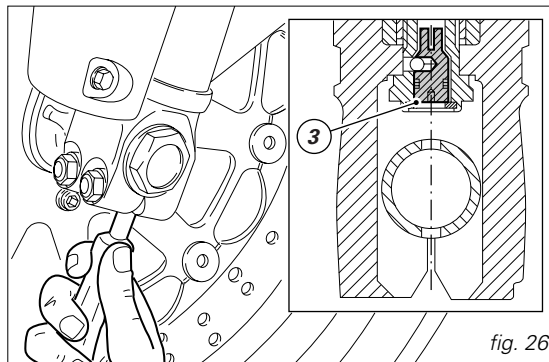

fig. 26
3) (fig. 26) to adjust compression damping.